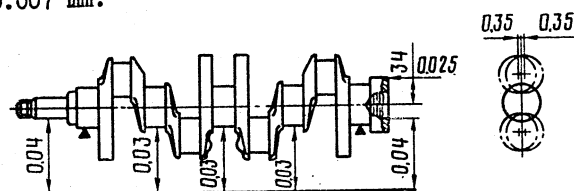

Fig.2-36. Permissible Runout of Basic Crankshaft Surfaces
Checking the Journals for Runout and Axial Misalignment. Put the crankshaft on Two Vee-blocks (Fig. 2-36) and make the following checks with a dial indicator:
- out-of-squareness of the flange face relative to the crankshaft axis; on rotating the crankshaft, the runout should not exceed 0.025 mm as read by the indicator installed sideways of the crankshaft, 34 mm from its axis (Fig. 2-36).